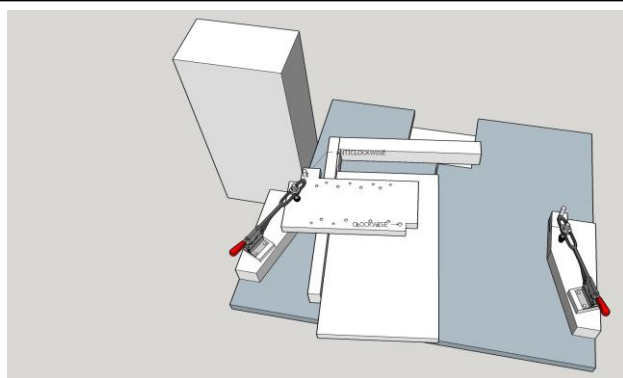

Figure 2: LHS Anti-clockwise Tails
- g. Repeat until all of one side of the tails have been cut – see figure 2.